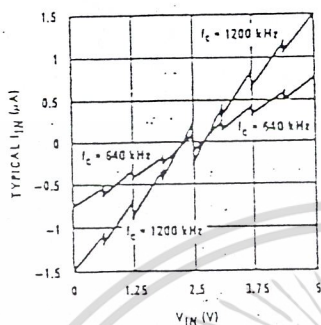

FIGURE 6. Comparator  $I_{IN}$  vs  $V_{IN}$
- Note 6: Comparator input current is a bias current into or out of the chopper stabilized comparator. The bias current varies directly with clock frequency and has little temperature dependence (Figure 6). See paragraph 4.0.
The average value of the comparator input current varies directly with clock frequency and with  $V_{IN}$  as shown in Figure 6.